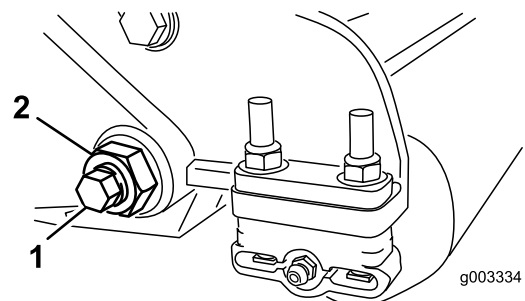

Figure 25
3. On each side of the machine, loosen the locknut securing the bedbar bolt (Figure 25).
4. Remove each bedbar bolt allowing bedbar to be pulled downward and removed from machine bolt (Figure 25).